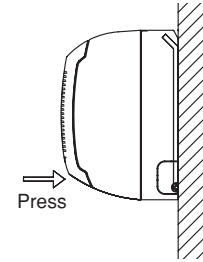

Fig. 3-124
2. Press on the air outlet to hold it in place, and press the lower part of the indoor unit until a "click" sound is heard and the indoor unit is securely fastened to the installation tabs on the lower side of the rear panel. (Fig. 3-124)